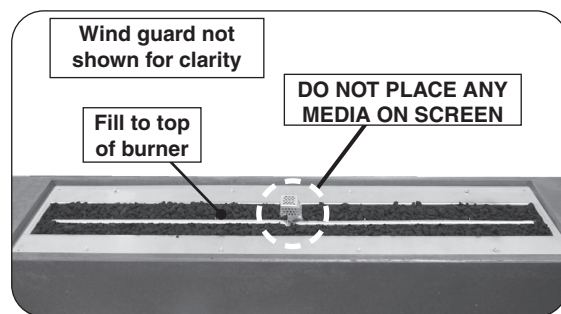
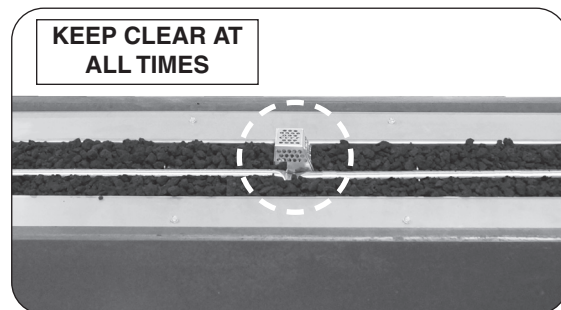

Fig. 29-1 Place lava granules
Fig. 29-2 Screen detail
1. Pour the 10 lb bag of lava granules into the burner area (with the exception of the screen). Spread the granules within the burner area as shown in Fig.29-1 and Fig.29-2. **Only fill the granules up to the top of the burner tube.**